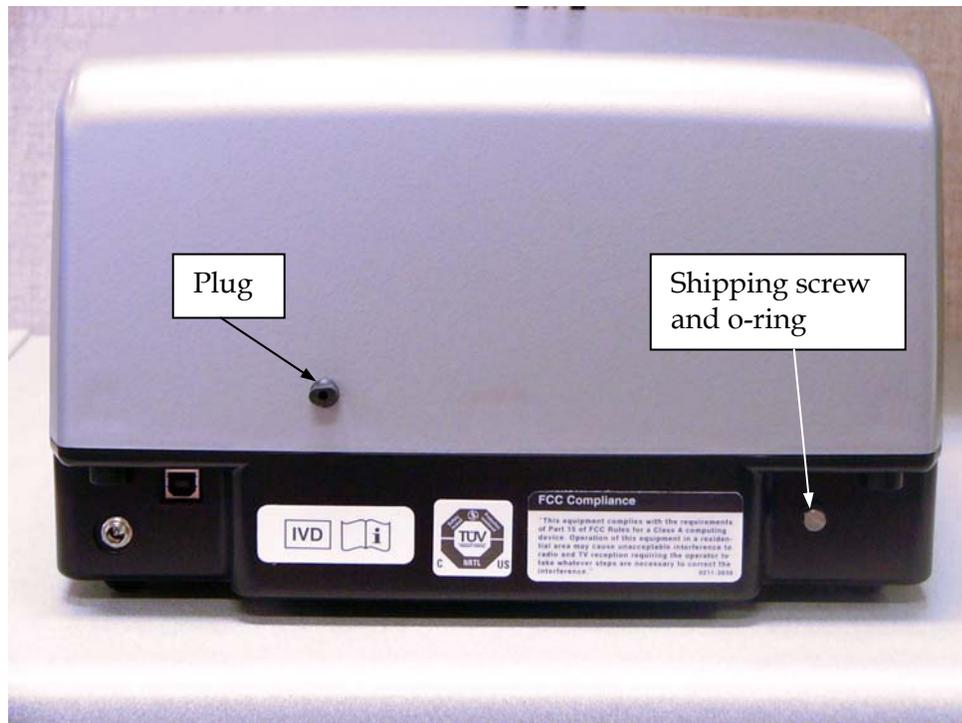

Figure 2
3. Install the plug in the hole where the shipping screw was originally located, and insert the screw and o-ring in the hole where the plug was originally located. See **Figure 2**.